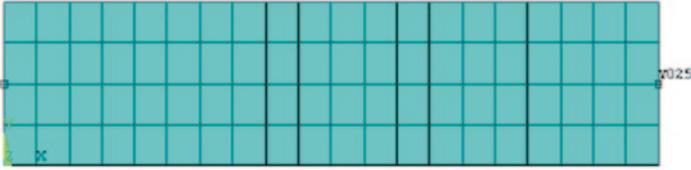

Fig. 5.29 Geometry plot of path Y025
- Figure 5.29 shows the result of this action.